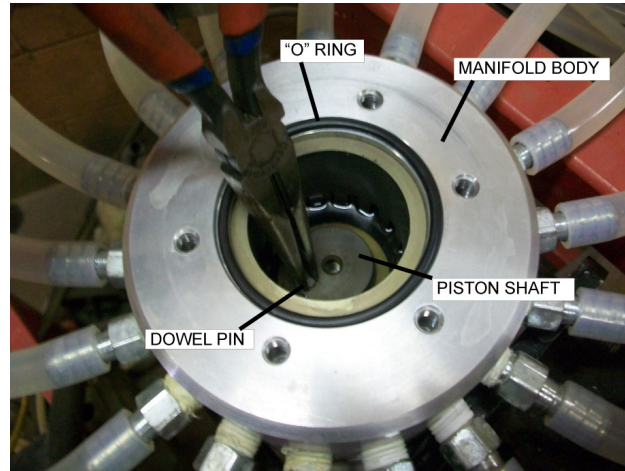

Figure 11-R.1
1. Check to see that dowel pin (15) is located in the hole in the top of piston shaft (11) and firmly pressed into place; see Figure 11-R.1